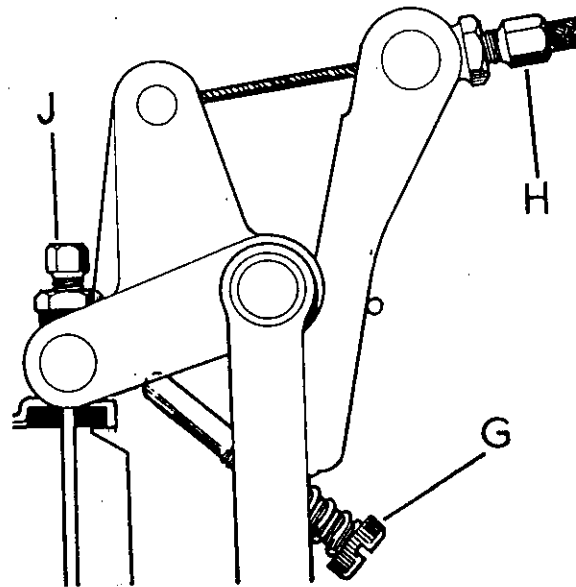

FIG. C.9. Throttle lever assembly.
This screw is usually used for tick-over adjustments but these should be slackened right back as screw (G) Fig. C.9 on the inlet manifold takes care of this adjustment.
2nd **Pilot jet** (Fig. C.8) with the throttle in position 2 and 5. Screw down the pilot air screws on each carburetter, as far as they will go without strain, then unscrew them in an anti-clockwise direction approximately one full turn each. Start the engine and loosen the throttle lever adjuster screw (C) Fig. C.9, until the engine runs slower and just begins to falter. Now screw the pilot air screws in or out exactly the same amount each, to obtain a regular and faster engine tick-over. Continue by screwing out the throttle lever adjuster until the closing of the throttle valves makes the engine begin to falter and run slower, then again adjust the pilot air screws to obtain a slow even tick-over. If, after this second adjustment, the engine is still running too fast, carry out the same procedure a third time.
Use the cable adjuster (H) Fig. C.9, to take up any slack in the cable.
NOTE:—The adjuster nuts (*J*) see Fig. C.9, on the individual throttle valve rods are preset at the works. If they are disturbed (as they have to be if work is to be done on the throttle slide and needle) they will have to be accurately re-synchronized (see page C.7).